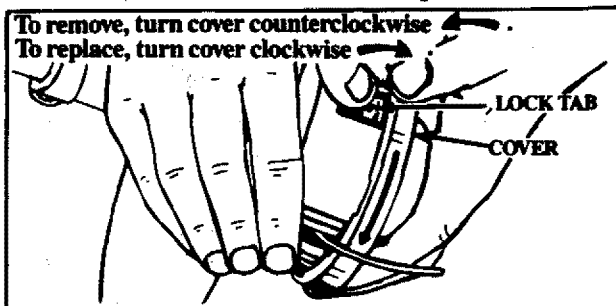

Figure 21
- a. Hold the Trimmer Head as shown in Figure 21. Press the Lock Tab and turn Cover counterclockwise.
- 3.) Turn Cover clockwise. Figure 21.